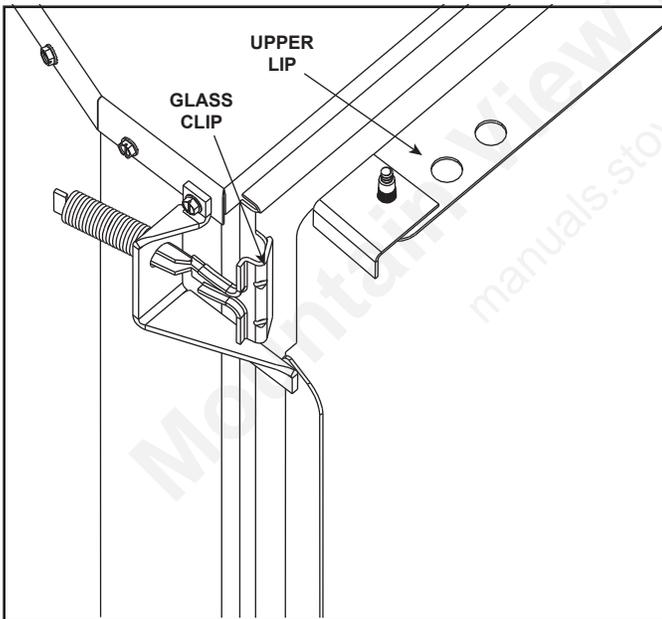

Figure 14.2 Fixed Glass Assembly
- Grasping the upper lip with one hand and the lower lip with the other, pull the bottom of the glass out first. Guide the bottom while letting the top drop down under the top of the opening. See Figure 14.2).